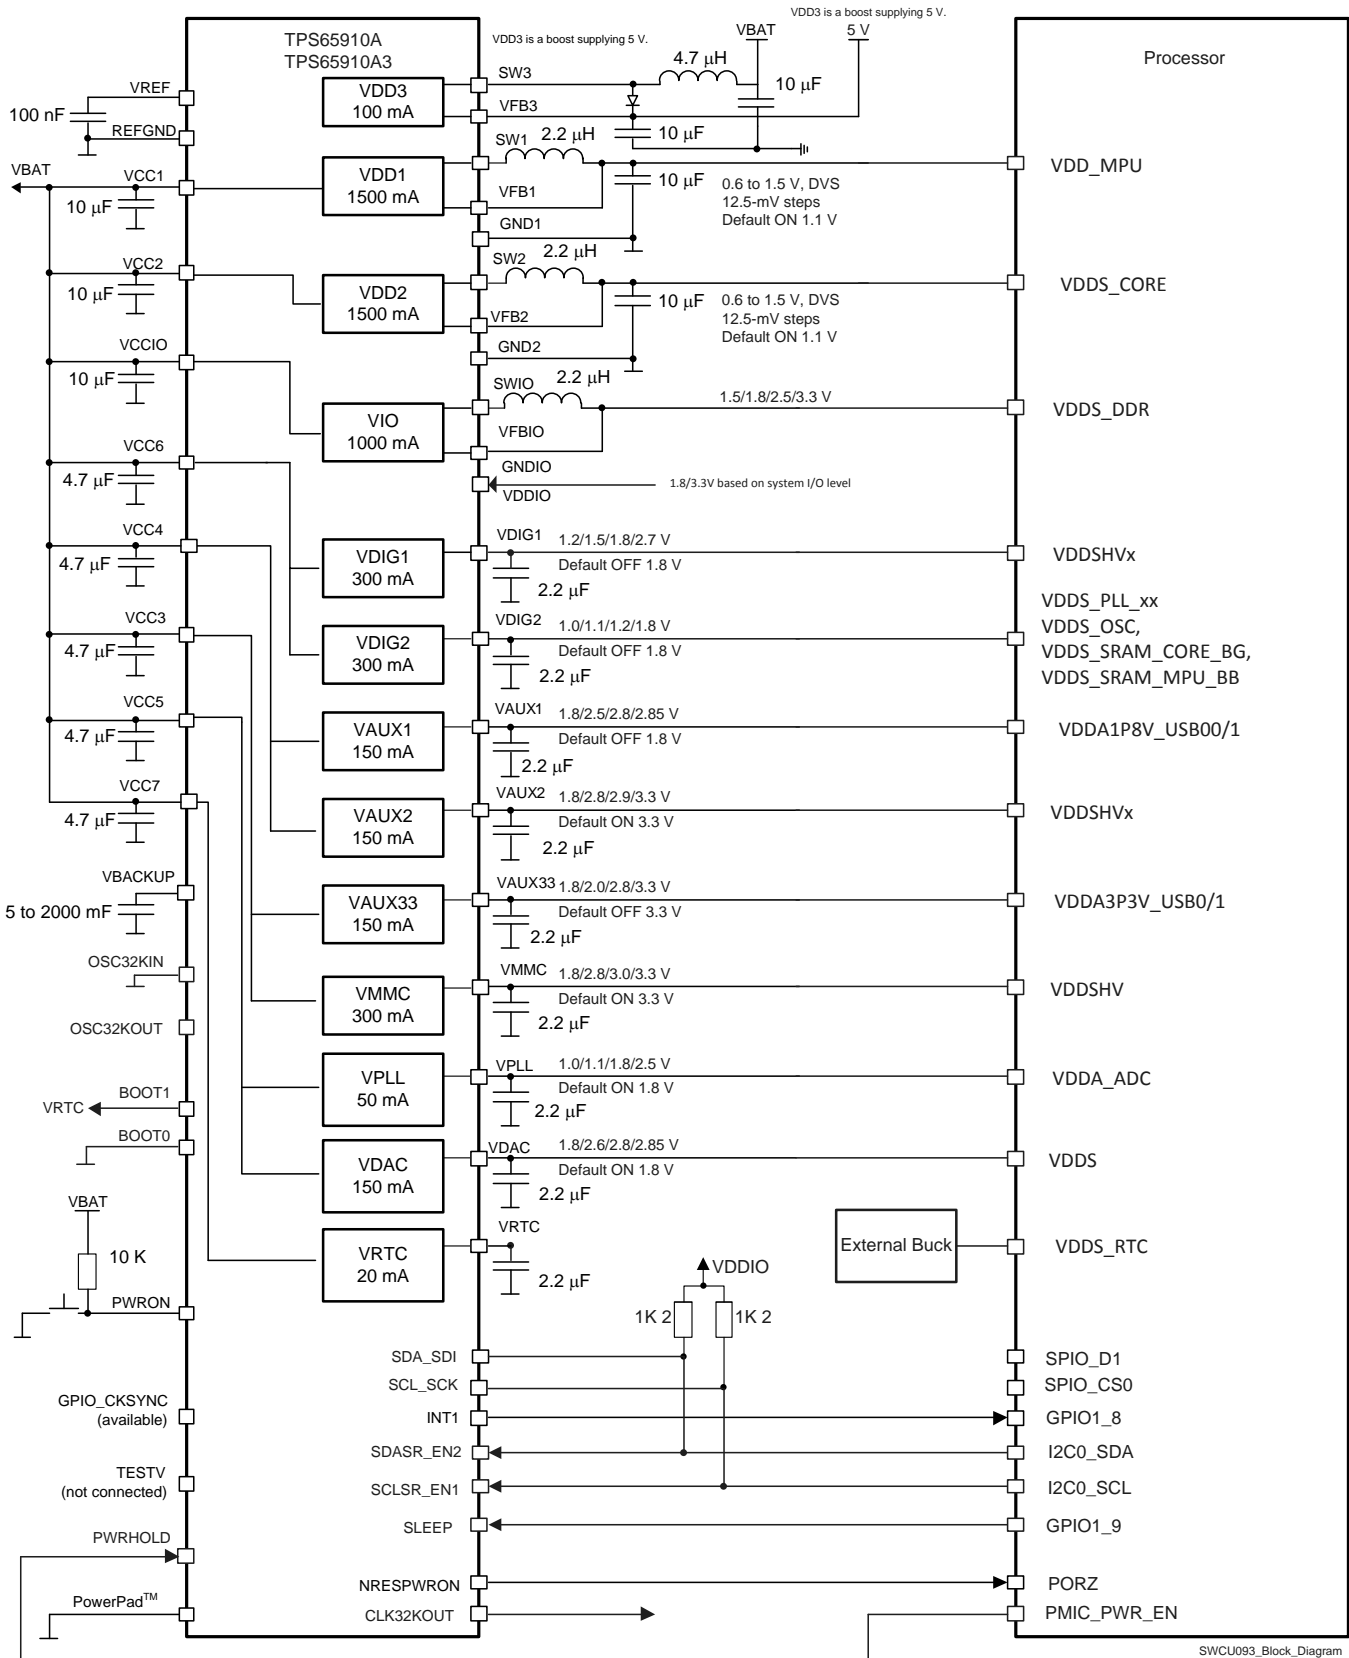
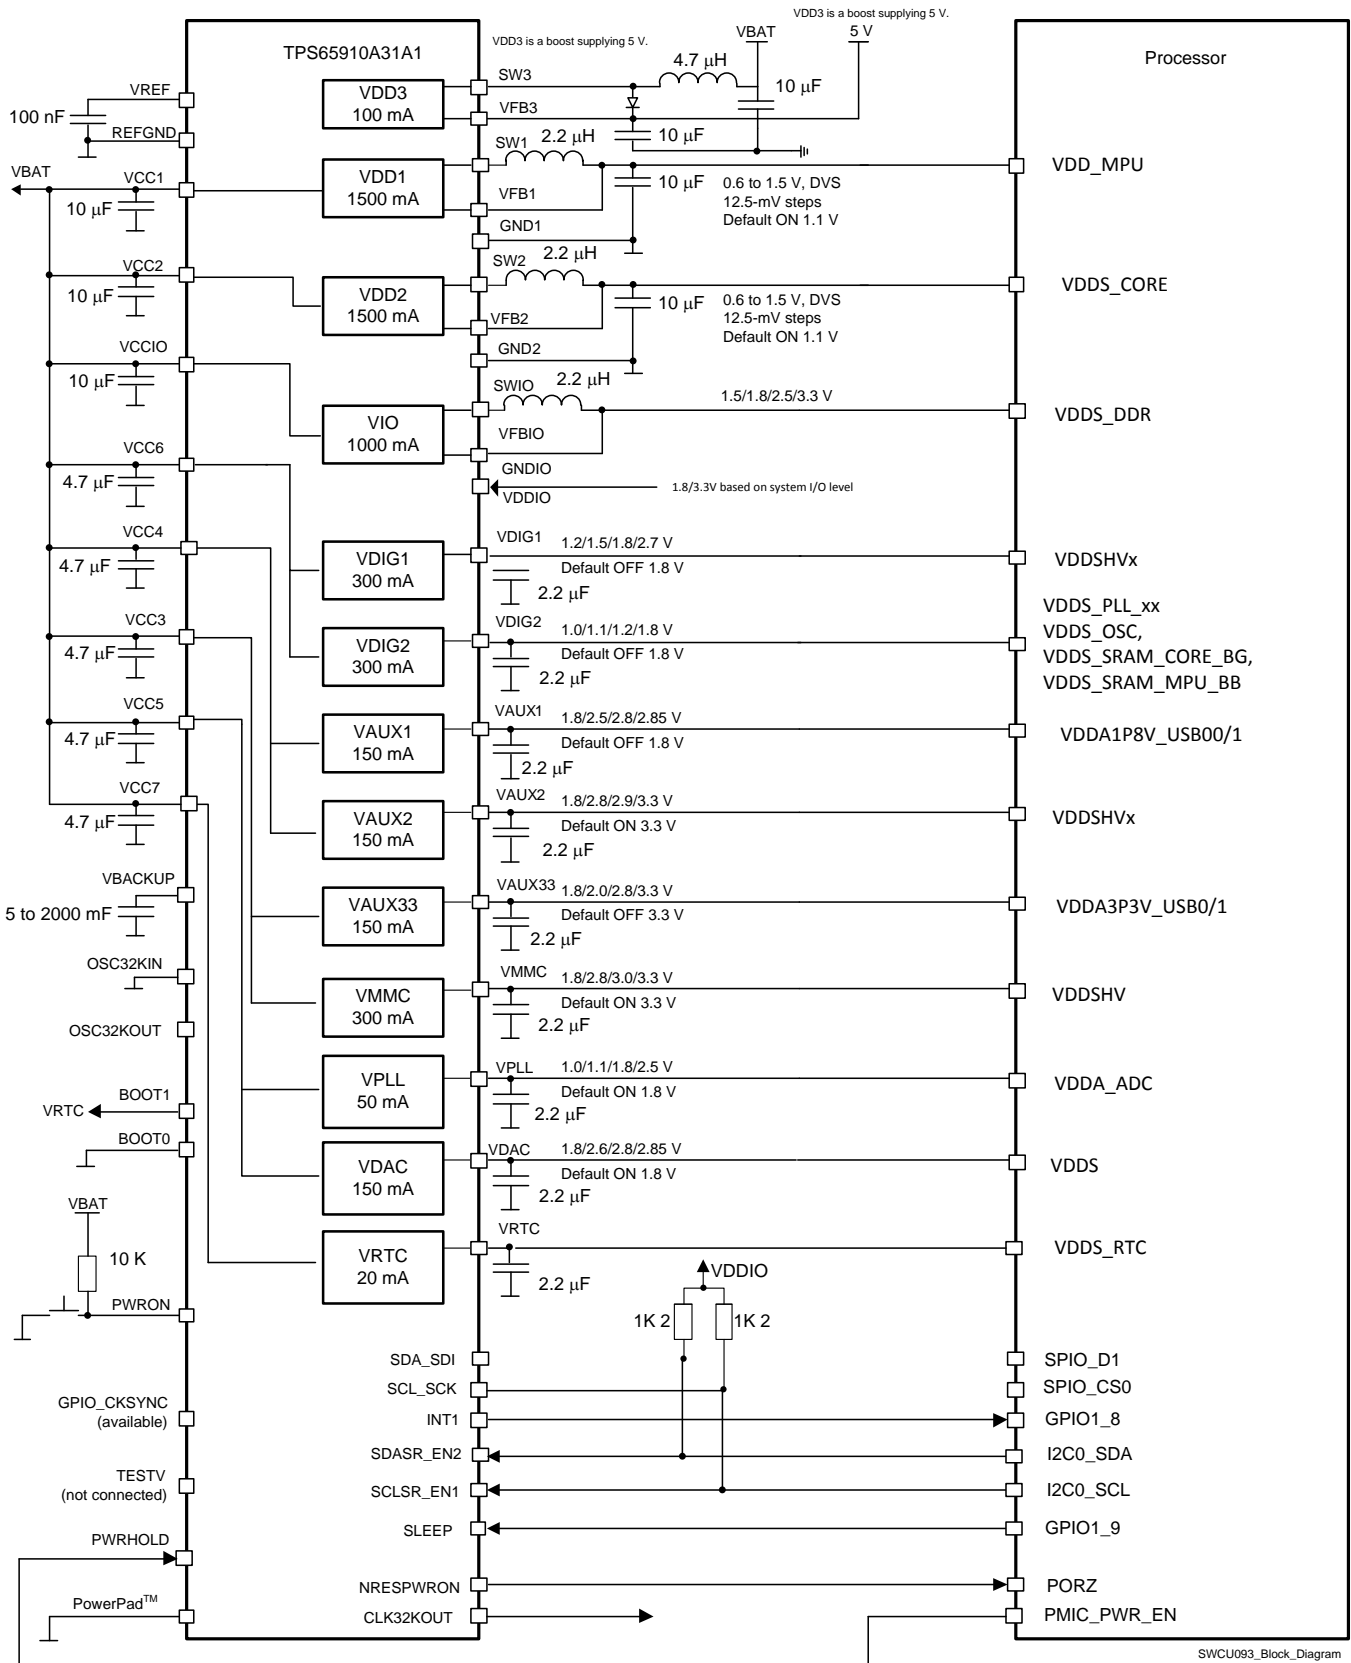

Figure 1. AM335x Power Supply Connections with TPS65910A and TPS65910A3
Figure 2. AM335x Power Supply Connections with TPS65910A31
Figure 1 shows the connection diagram between the processor and the TPS65910A or TPS65910A3. Figure 2 shows the connection diagram between the processor and TPS65910A31.
- The VDD1 and VDD2 connections shown in Figure 1 and Figure 2 is valid for processor version ZCZ (15 x 15). In ZCE (13 x 13), VDD\_MPU and VDD\_CORE are shorted internally. For ZCE, connect VDD1 to VDD\_MPU; VDD2 is free for system use.
- Update Figure 1: Remove VIO default on value
- Figure 1 - Update I2C connections